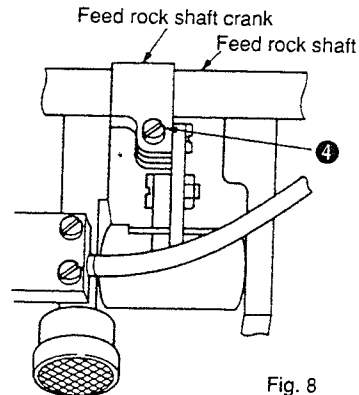

Fig. 8
2. Turn the handwheel to bring needle bar ① to the lowest dead point.
3. Loosen screw ④ shown in Fig. 8.
4. Adjust the inner dimension provided between needle bar ① and presser bar ② to the specified dimension. Then, tighten screw ④.